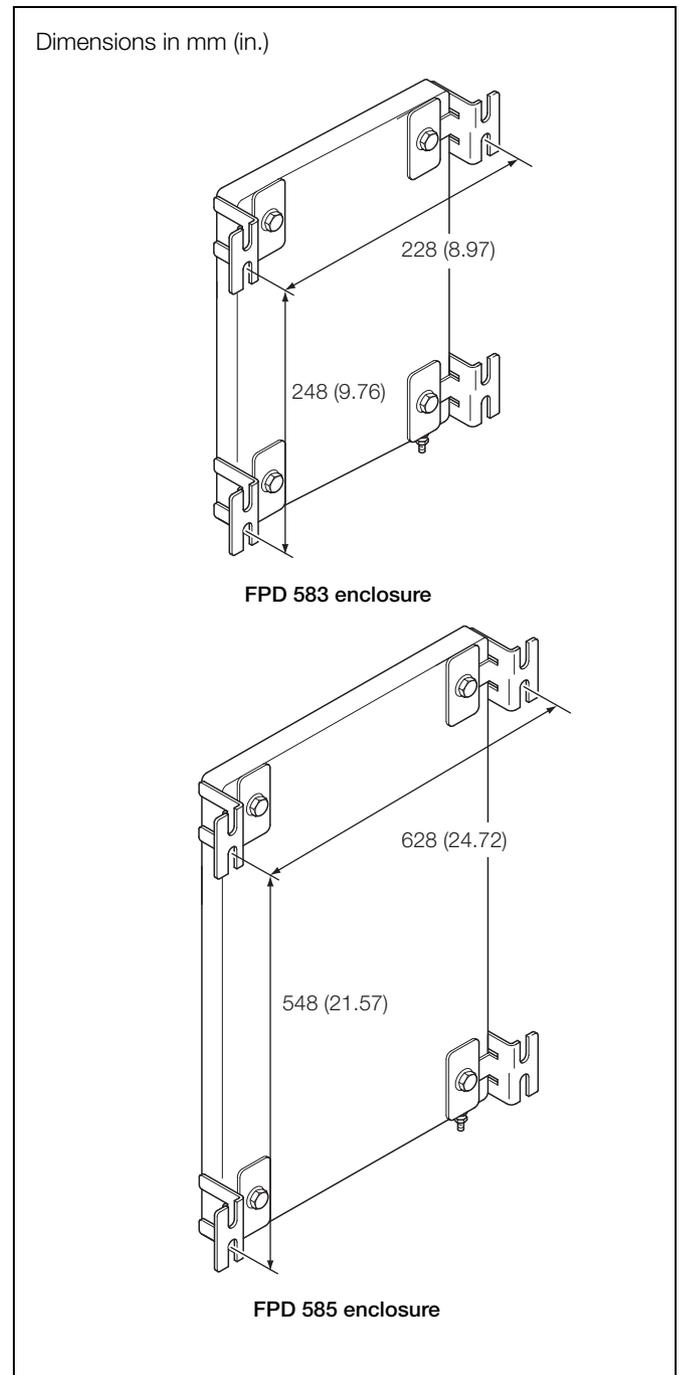

Fig. 4.3 Enclosure mounting dimensions
1. Referring to Fig. 4.3, fit the supplied mounting brackets to the enclosure as shown.